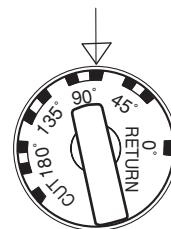
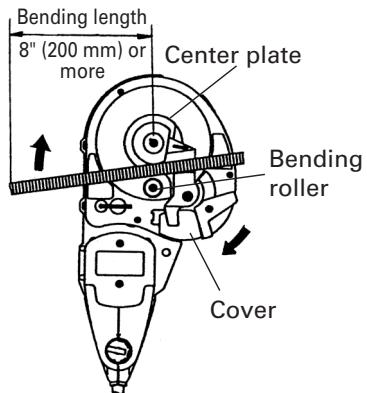

Fig. 13
Fig. 14
In bending the rebar of #3(3/8"), #4(1/2"), and #5(5/8") diameters, a difference takes place in the bending angle even in the same dial position depending upon the difference of rebar's thickness. Slightly change a position of the setting dial depending upon the rebar's diameter even with the same bending angle as shown in Fig. 13.
- (1) Set the unit in the position with the turntable up as shown in Fig. 14.
- (2) Make sure that the cover is closed.
- (3) Set the setting dial at the desired angle. (Fig. 13)
- (4) Place the rebar on the center plate and set it correctly as shown in Fig. 14.
- (5) Pull the switch trigger and bent the rebar.
- The minimum required bending length is 8" (200 mm). If the bending length is not long enough, the rebar can come off during bending operation, or it can break into fragments and scatter dangerously. (Fig. 14)